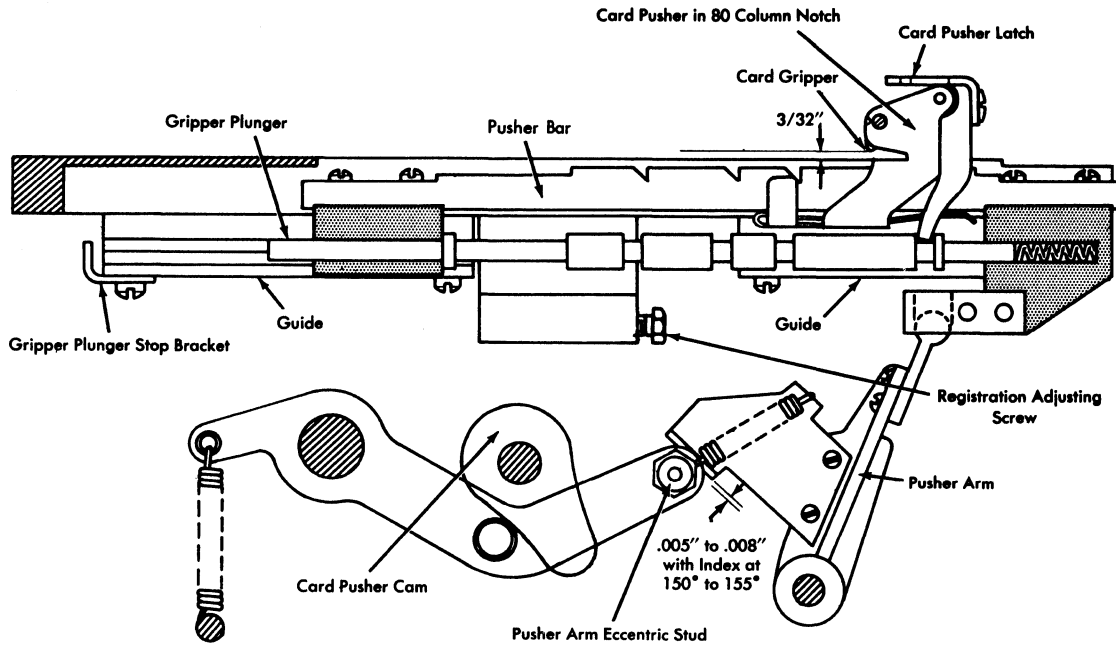

Figure 98. Card Pusher Registration Assembly
1. Adjust guides so that pusher bar moves freely without excessive play (Figure 98).